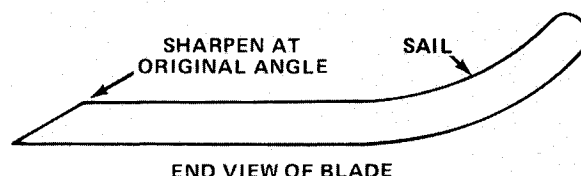

Figure 15
2. Inspect cutting edges of all blades. Sharpen the cutting edges if they are dull or nicked. Sharpen only the top of the cutting edge and maintain the original cutting angle to make sure of sharpness (Fig. 15). The blade will remain balanced if same amount of metal is removed from both cutting edges.